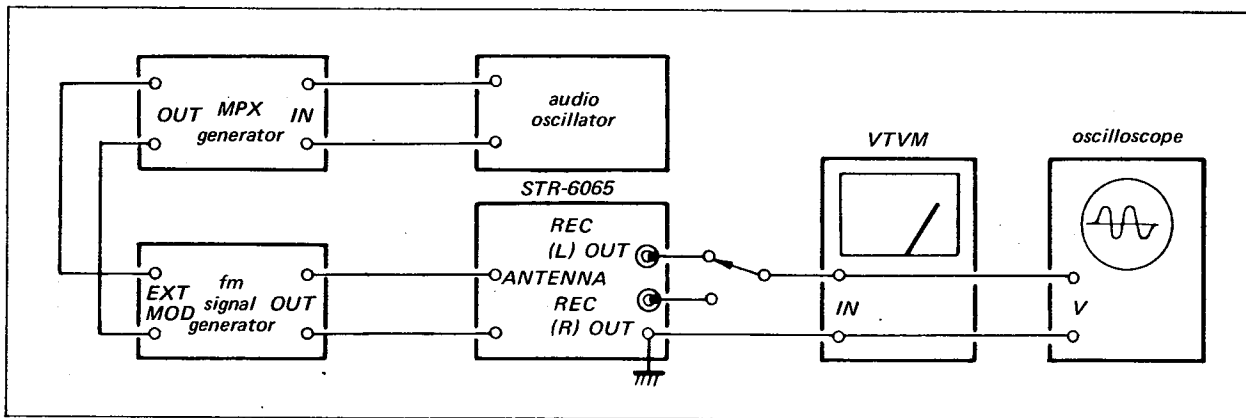

Fig. 3-8. Fm stereo separation adjustment test setup
1. Connect the equipment as shown in Fig. 3-8. Set the fm signal-generator's control as follows:
- (a) With the equipment connected as shown in Fig. 3-8 set the MPX stereo generator controls as follows.